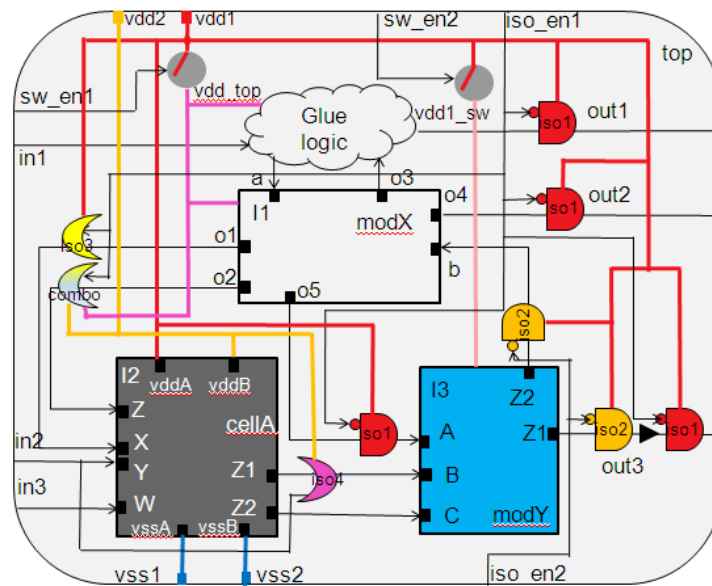

Figure E.6—Block example diagram after physical implementation
Figure E.6 shows the block diagram of the example in Figure E.1 after the physical implementation stage, with power and ground connections completed.
For the regular logic cells of a power domain, the power pin and ground pin of each cell are connected to the primary power net and ground net of the parent power domain, respectively. For example, the power pins of the glue logic in Figure E.6 are connected to the power net `vdd_top`, which is defined as the power net of the primary supply set of power domain `PDTop`.
- *Level-shifter supply connection*: The level-shifter cell power and ground connections are determined by the options **-input_supply_set** and **-output_supply_set** in the level-shifter strategy. For example, in `top_impl.upf`, the level-shifter strategy `lv11` has an input supply set of `PDTop.primary` and output supply set of `PDTop.SSH2`. Since an enabled level-shifter is used to implement both the isolation strategy `iso3` and level-shifter strategy `lv11` for this connection, the input power net of the cell is `vdd_top` and the output power net of the cell is `vdd2`, as shown in Figure E.6. If the two options are not specified for a level-shifter strategy, the supply set of the source is used as the input supply set and the supply set of the sink is used as the output supply set.
- *State retention supply connection*: In the configuration UPF, the option **-retention_supply_set** describes the supply set for each retention strategy. Retention cells mostly have two set of supplies. The primary rails are connected to the power and ground nets of the parent domain. The secondary rails are connected to the power and ground nets of the specified retention supply set. Even though it is not shown in Figure E.6, the retention cells that implement the strategy for `ret1` in `top_soft.upf` shall have the following connections: primary rails of the cell are connected to `vdd1_sw` and `vss1`, respectively, and the secondary rails of the cell are connected to `vdd1` and `vss1`, respectively.